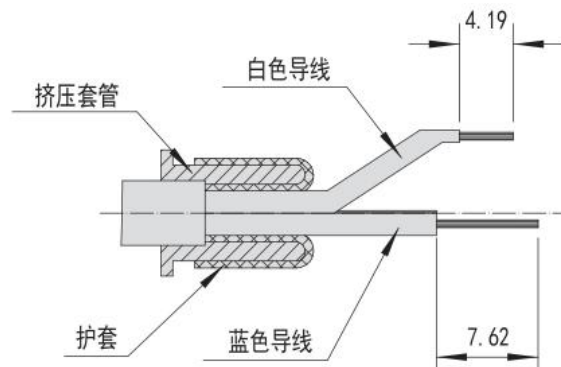

Figure 3.8
- ③ As shown in Figure 3.8, Cover the cable jacket on the shielding crimp sleeve. Cover the shielding layer on the shielding crimp sleeve. Peel the inner wires as shown. (The fill can be cut off close to the shield)